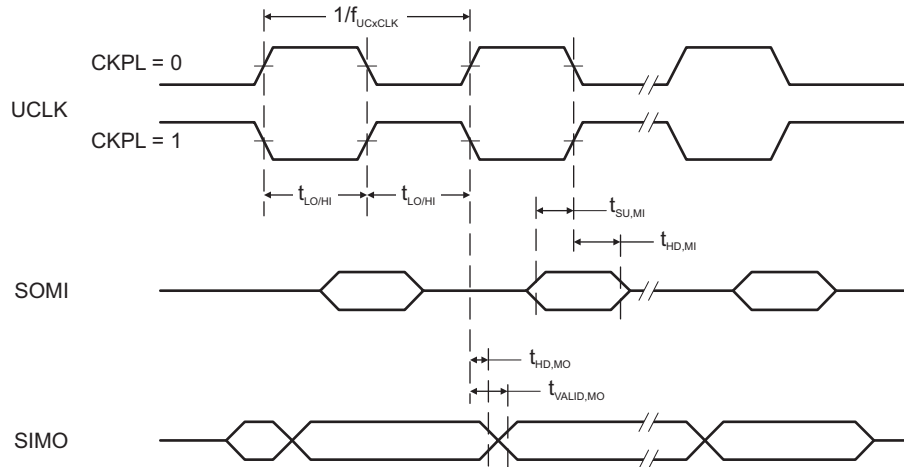
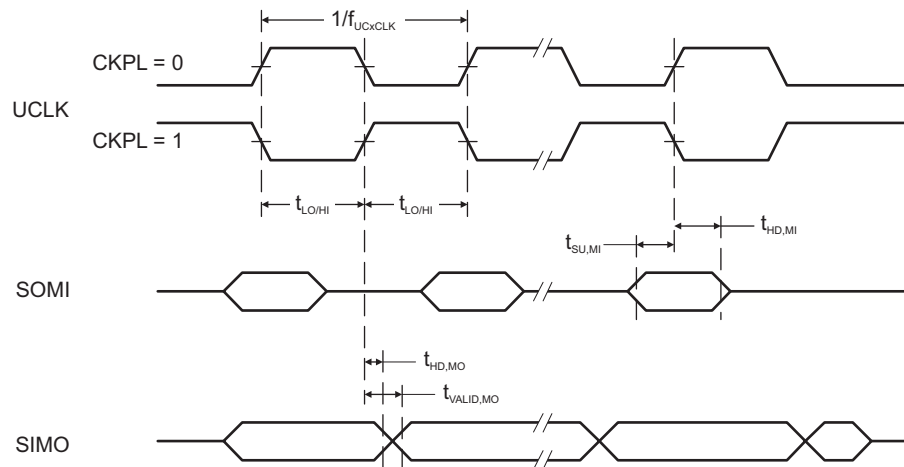

Figure 5-11. SPI Master Mode, CKPH = 0
Figure 5-12. SPI Master Mode, CKPH = 1
(1) Pulses on the UART receive input (UCxRX) shorter than the UART receive deglitch time are suppressed. To make sure that pulses are correctly recognized, their duration should exceed the maximum specification of the deglitch time.
**Table 5-19. USCI (SPI Master Mode)**over recommended ranges of supply voltage and operating junction temperature (unless otherwise noted)(1)(see Figure 5-11 and )
- (2) Specifies the time to drive the next valid data to the SIMO output after the output changing UCLK clock edge. See the timing diagrams in Figure 5-11 and Figure 5-12.
- (3) Specifies how long data on the SIMO output is valid after the output changing UCLK clock edge. Negative values indicate that the data on the SIMO output can become invalid before the output changing clock edge observed on UCLK. See the timing diagrams in Figure 5-11 and Figure 5-12.